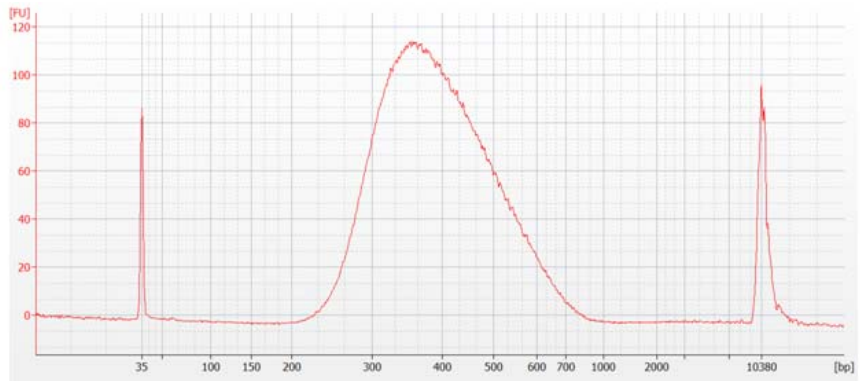

Figure 4 Post-capture analysis of amplified indexed library DNA using the 2100 Bioanalyzer and a High Sensitivity DNA Assay.
- 4 Verify that the electropherogram shows the peak of DNA fragment size positioned between 325 and 450 bp. A sample electropherogram is shown in Figure 4.